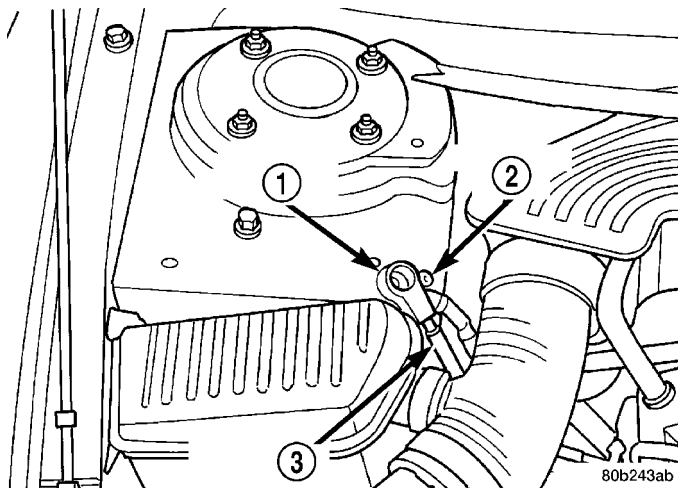

Fig. 74 Correctly Isolated Remote Ground Cable
(1) Remove the battery ground cable from the ground stud on the right strut tower. Then, correctly isolate the ground cable by installing the cable isolator on the ground stud (Fig. 74).